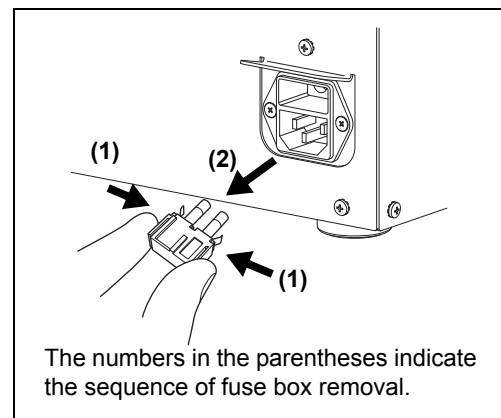

Figure 6.7
- 4** Push the projections on the fuse box in the direction of the arrows (1) in Figure 6.7 and remove the fuse.